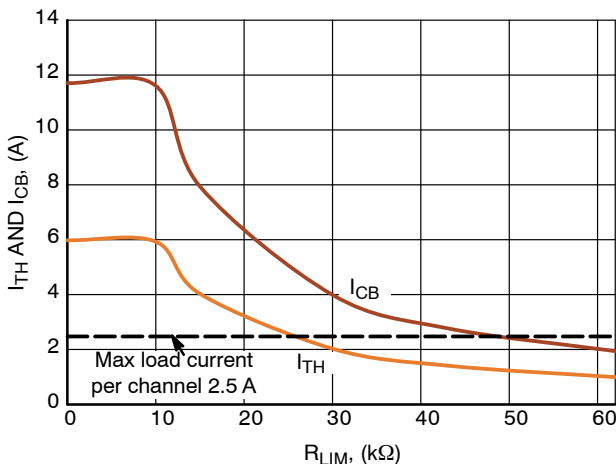

Figure 5. Current Limit Setting vs. R_{LIM}
1.1 R_{LIM} : The current limiting resistor should be connected between the I_{LIM} pin (pin 7) and ground. The purpose of this resistor is to set the current limit value for I_{TH} and I_{CB} , which when tripped will cause the output to be disconnected from the input. Look at Figure 5 and 6 in the data sheet to choose the correct resistor value for the application.